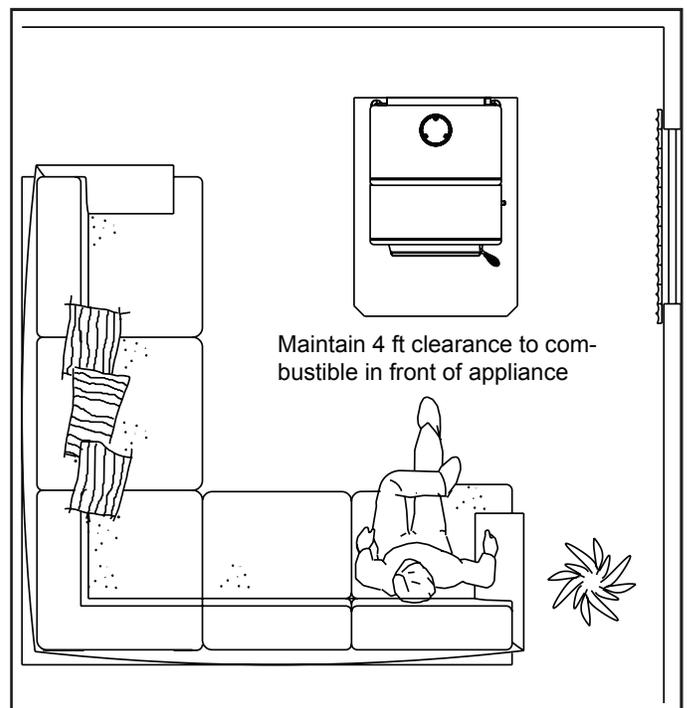

Figure 15.3
- Do NOT place combustible objects within 4 ft (1.2 m) of the front of appliance. See **Figure 15.3.**